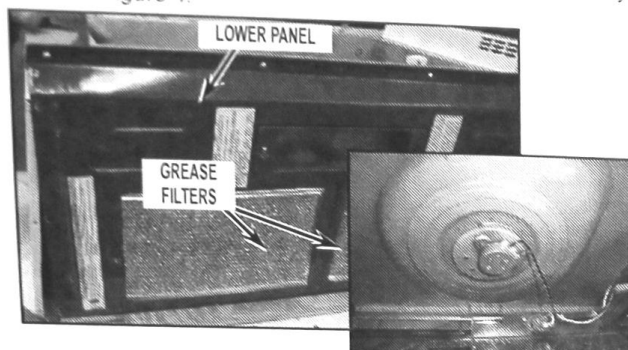

FIGURE 4
4. Remove grease filters for hood fan underneath oven cavity See Figure 4.
5. Remove lower panel underneath oven cavity. See Figure 4.
6. Disconnect wiring and set panel aside. See Figure 4.